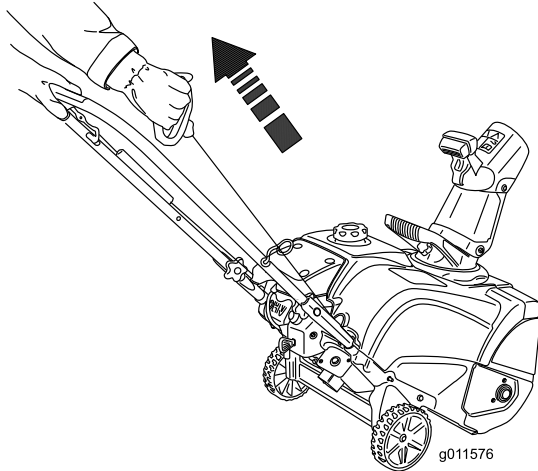

Figure 20
4. Connect an extension cord to a power source and the machine, and push the electric-start button (model 38283 only) (Figure 19), or pull the recoil start handle (Figure 20).